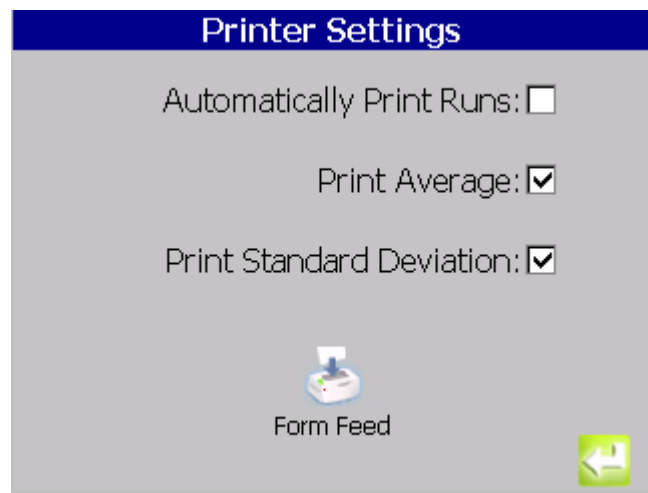

Fig 3-40 : Print Tab
- 1) From the main screen, select the **Settings** button > **Print** to invoke the **Print** tab, shown in Figure 3-40.